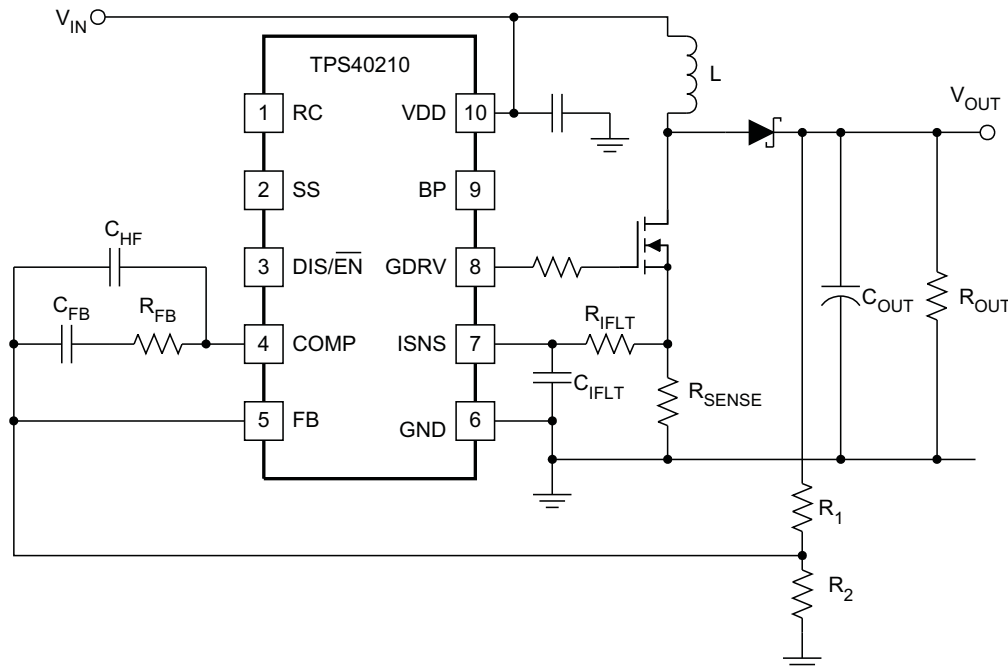

Figure 27. Basic Compensation Network
The second option is to make an initial guess at compensation, and then evaluate the transient response of the system to see if the compensation is acceptable to the application or not. For most systems, an adequate response can be obtained by simply placing a series resistor and capacitor (R_{FB} and C_{FB}) from the COMP pin to the FB pin as shown in Figure 27.
- $R1$ is the high side feedback resistor in Figure 27, in Ω